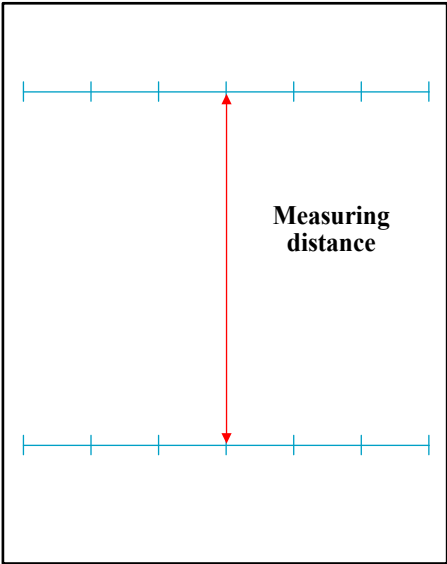

Figure 5-52. Adjustment Pattern
4. Measure the distance as shown in **Figure 5-52**.